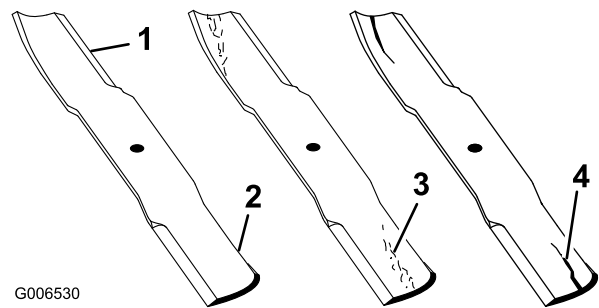

Figure 78
1. Inspect the cutting edges (Figure 78). If the edges are not sharp or have nicks, remove and sharpen the blades. Refer to Sharpening the Blades.
2. Inspect the blades, especially the curved area (Figure 78). If you notice any damage, wear, or a slot forming in this area (Figure 78), immediately install a new blade.